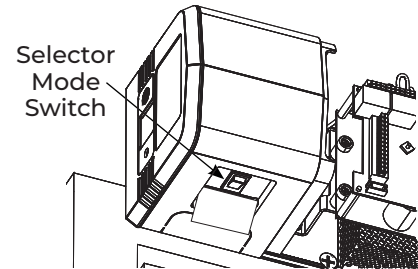

Fig. 26
WARNING: Door may begin to move immediately when power is applied. An open union assembly door on a PULL unit has potential to pinch fingers if hand is not withdrawn quickly when switching on power. (Fig. 26)
5. Place selector mode switch of union assembly in 'ON' position for activation by push plate, RF button, or other activation devices. Place switch in 'H/O' for continuous hold open. (Fig. 26) Secure union assembly door with #4 Phillips screw when finished.
WARNING: Door may begin to move immediately when selector mode switch is changed. An open union assembly door on a PULL unit has potential to pinch fingers if hand is not withdrawn quickly when adjusting switch. (Fig. 26)